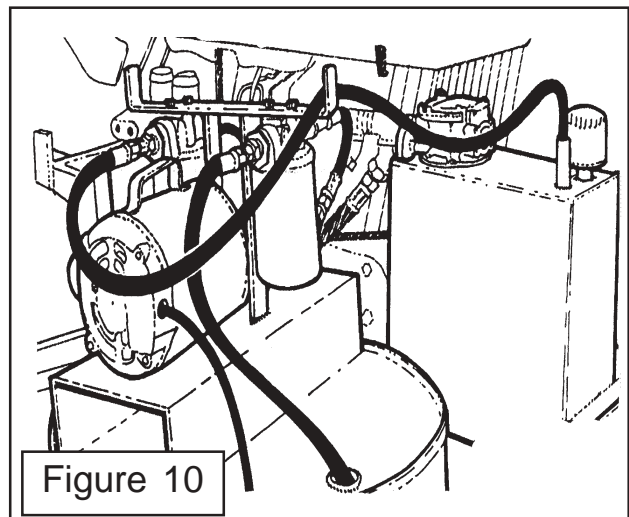

Figure 10
6. To fill the hydraulic reservoir with new, clean hydraulic oil, follow the steps below. Refer to the Operation and Maintenance Section for specifications. (See Figure 10)